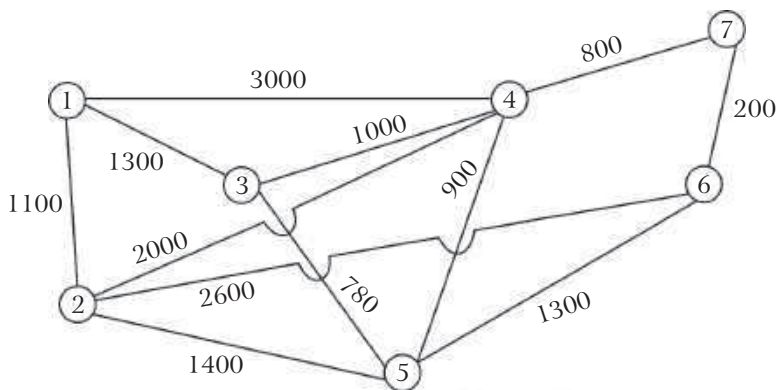

Fig. 8.45
5. Suppose that it is desired to establish a cable communication network that links the seven major cities shown in following figure 8.45. The label on each branch represents the distance between the corresponding cities in kilometers. Determine how the cities be connected such that the total used cable length is minimized.